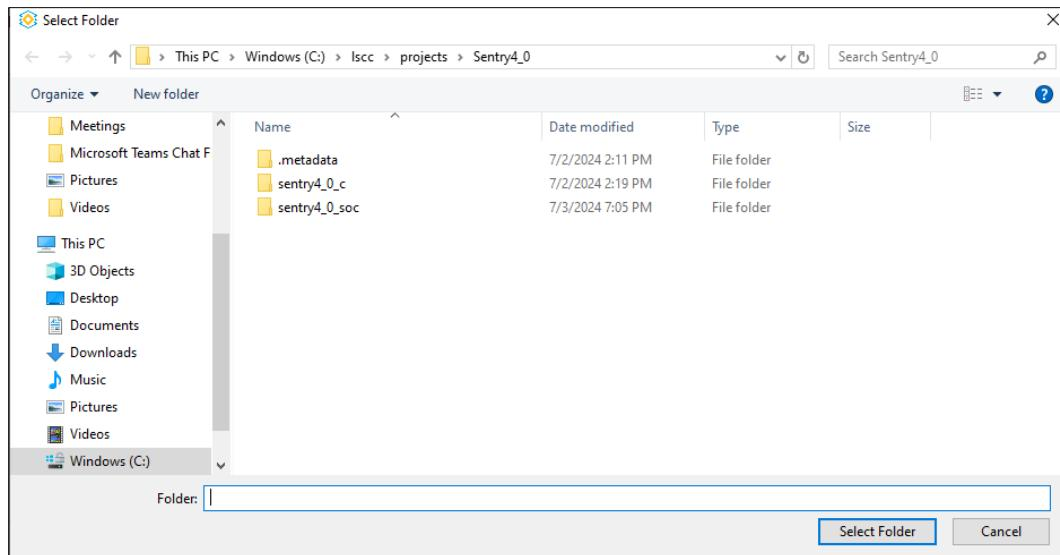

Figure 5.9. Import the C Project into the Workspace
5. Click **Browse** next to **Select Root Directory** and navigate to the directory which contains the C project to be imported. Click **Select Folder** (Figure 5.9).